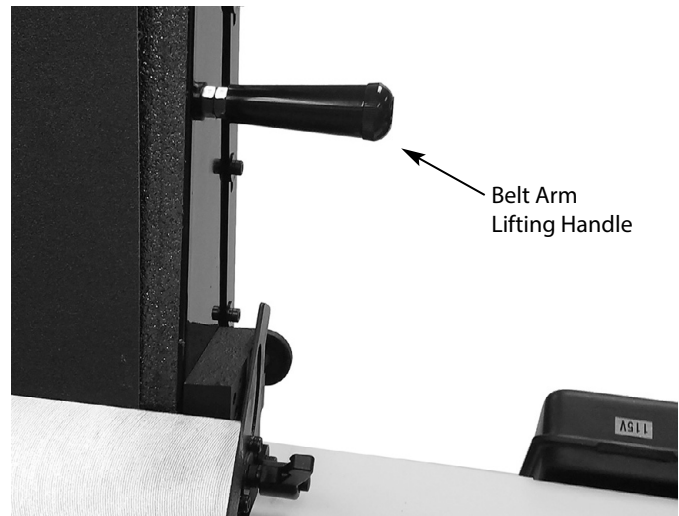

Figure 9 - Belt arm lifting handle.
2. Take hold of the belt arm lifting handle, shown in figure 9, and angle the belt arm to the desired angle.